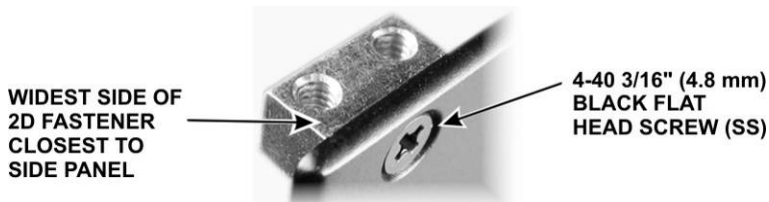

Figure 65. Installing Left Side Panel 2D Fastener.
Mount a 2D fastener at the top rear corner of the panel with a 4-40 3/16" (4.8 mm) black flat head screw (SS) as shown in Figure 65. Do **not** use washers. Be sure the 2D fastener is oriented correctly as shown in the figure.